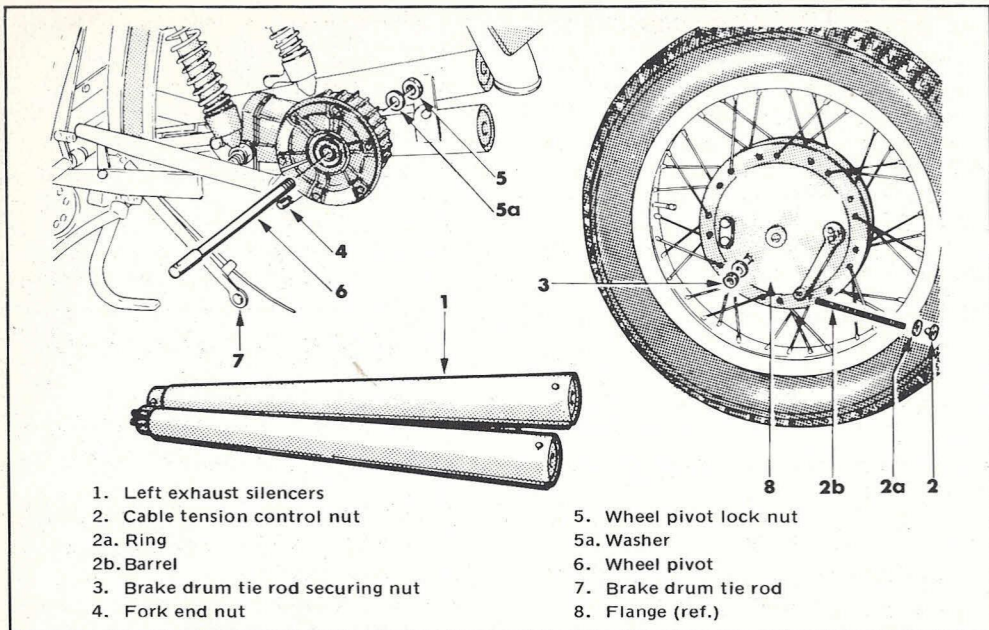

Figure 3-18. Removal of rear wheel
(See figure 3-18)
- b. Remove both left exhaust silencers (1, figure 3-18).
- c. Remove cable tension control nut (2) from threaded barrel and extract cable.
- d. Remove nut (3) to extract brake shoe flange tie rod.
- e. Loosen nut (4) on left rear fork leg.
- f. Remove nut (5) and extract wheel pivot (6).